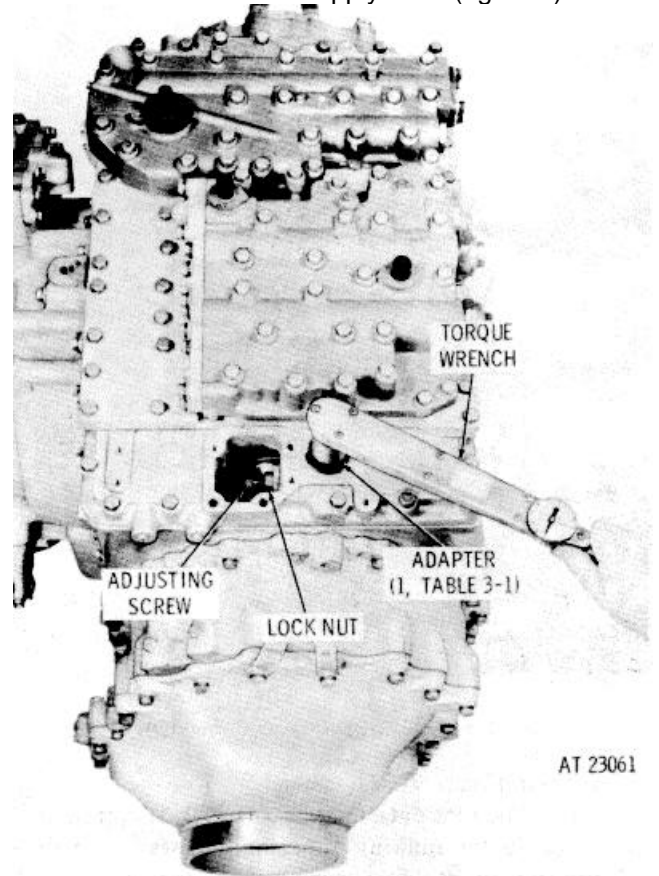

Figure 9-6. Checking rotation of brake apply shaft during adjustment of brake.
(2) Remove the linkage from the left and right brake apply shafts, leaving the shaft splines exposed at the top of the transmission. Remove the left and right brake inspection covers immediately forward of the brake separately. Install adapter (1, table 3-1) on a short 1/2-inch drive socket wrench extension. Use a torque wrench and apply 100 pound feet rotating force (clockwise on left side, counterclockwise on right side of transmissions to the brake apply shaft (fig. 9-6).
(2) With torque applied, note the position of the brake indicator. If the stationary mark on the power train is between Off and Apply, on the brake indicator, the brake adjustment must be loosened. If it is at Apply, or between Apply and Adjust, the adjustment is satisfactory. If the mark is at Adjust or beyond, the brakes must be tightened.
(3) To adjust the brakes, loosen the brake adjusting screw lock nut and rotate the adjusting screw (fig. 9-6). Clockwise rotation (viewed from the front of the transmission) of either the left or right adjusting screw will shorten the brake apply shaft travel. This tightens the brake adjustment. Counterclockwise rotation will lengthen the brake apply shaft travel (loosen the brakes). The brakes are properly adjusted when 100 pound feet of torque on the brake apply shaft will cause the stationary mark on the transmission to align with the Apply mark on the indicator.
(4) When both brakes are adjusted, tighten the lock nuts and replace the gaskets, inspection covers, washers and bolts. Replace the linkage if the transmission is in a vehicle. Refer to TM 9-2350-230-35/1 for linkage information.